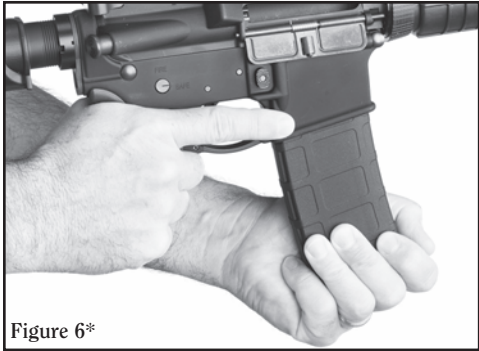

Figure 6*
See Figure 6. The magazine may be inserted with the bolt carrier either in the closed or open position (see “Bolt Catch” section p. 11), although significantly more force will be necessary to insert the magazine with the bolt in the closed position.
* **NOTE** – Figures 6 and 7 depict 30-round magazines. Some AR-556™ models are equipped with 5 or 10-round magazines for those states and locales with magazine capacity restrictions.